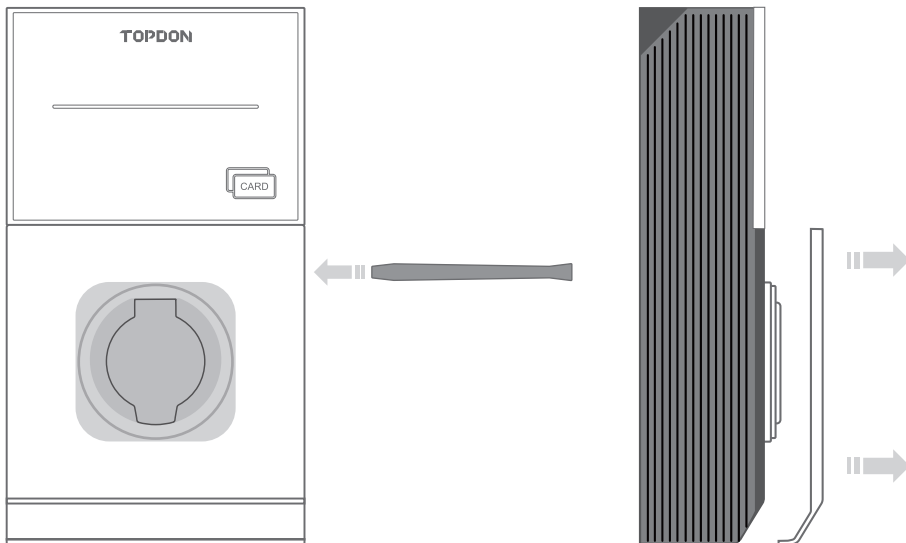

Fig. 5-11
2. Use a spudger to remove the cover. (See Fig. 5-11)